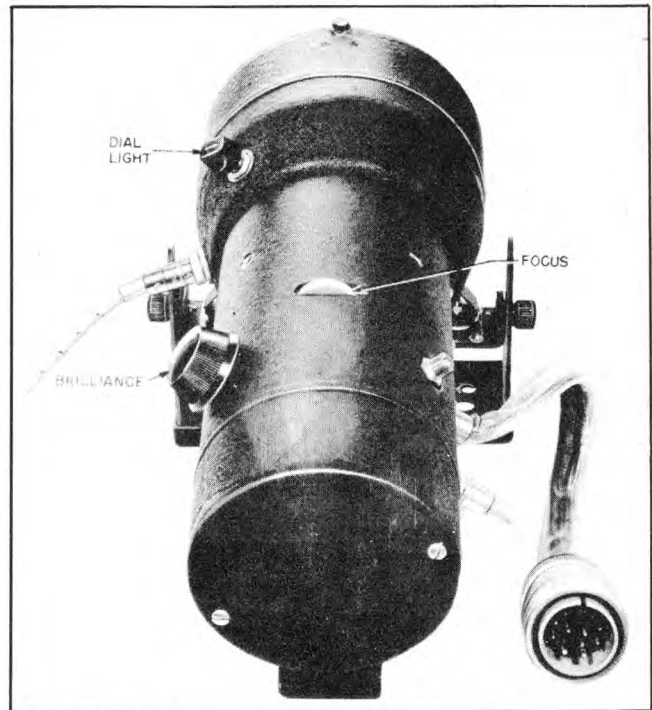

Figure 5-5. Indicator ID-99/APS-10—Operator's Adjustments
a. "DIAL LIGHT."—The screen over the indicator tube is marked in azimuth angles relative to plane heading. This dial is illuminated. The amount of light on this bearing scale may be adjusted to suit the individual operator by turning the "DIAL LIGHT." (See figure 5-5.) Turn to the right to increase the illumination, to the left to reduce it.
b. "FOCUS."—The indicator should be in sharp focus at the beginning of each flight, since it has been adjusted accurately by the maintenance man. If an adjustment is needed, turn the "SPINNER OFF" switch to off at the synchronizer and rotate the knurled wheel "FOCUS" on the indicator frame. (See figure 5-5.) Turn it back and forth until the sweep line and range marks are sharp and clear.
c. "BRILLIANCE."—The knob near the back of the indicator (figure 5-5) is for individual adjustment, governing the overall brightness of the presentation on the indicator tube. Too much will blur, like looking at the sun. Too little will prevent echoes from showing at all. Turn it to the right to increase brilliance, to the left to reduce it. (A normal setting may be produced by turning the "GAIN" all the way down and adjusting "BRILLIANCE" until the sweep line is just visible.)